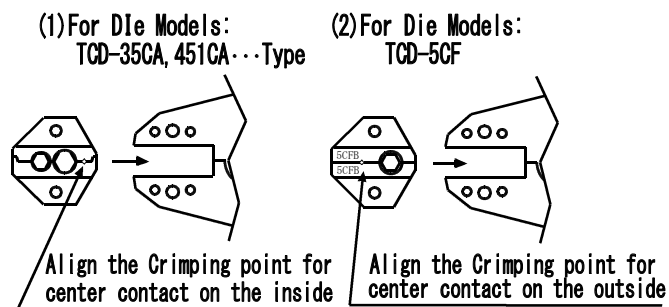

Fig 2: Crimping Die Attachment
- (1) Select the correct die according to **Canare product catalog**.
- (2) Attach the crimping die as shown in **Fig 2** with the crimping point for center contact facing the user.